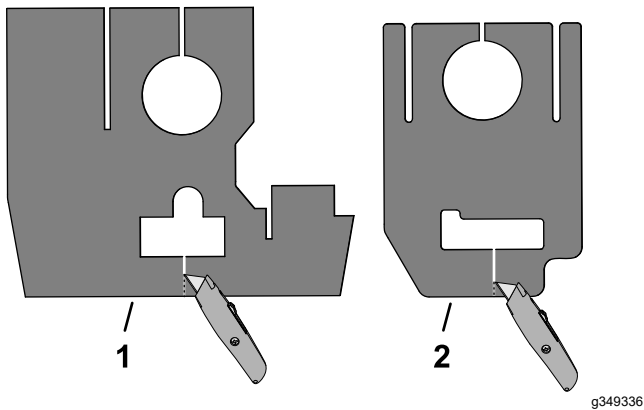

Figure 2
2. Use a utility knife to cut the upper and lower steering column plugs as shown in Figure 2.